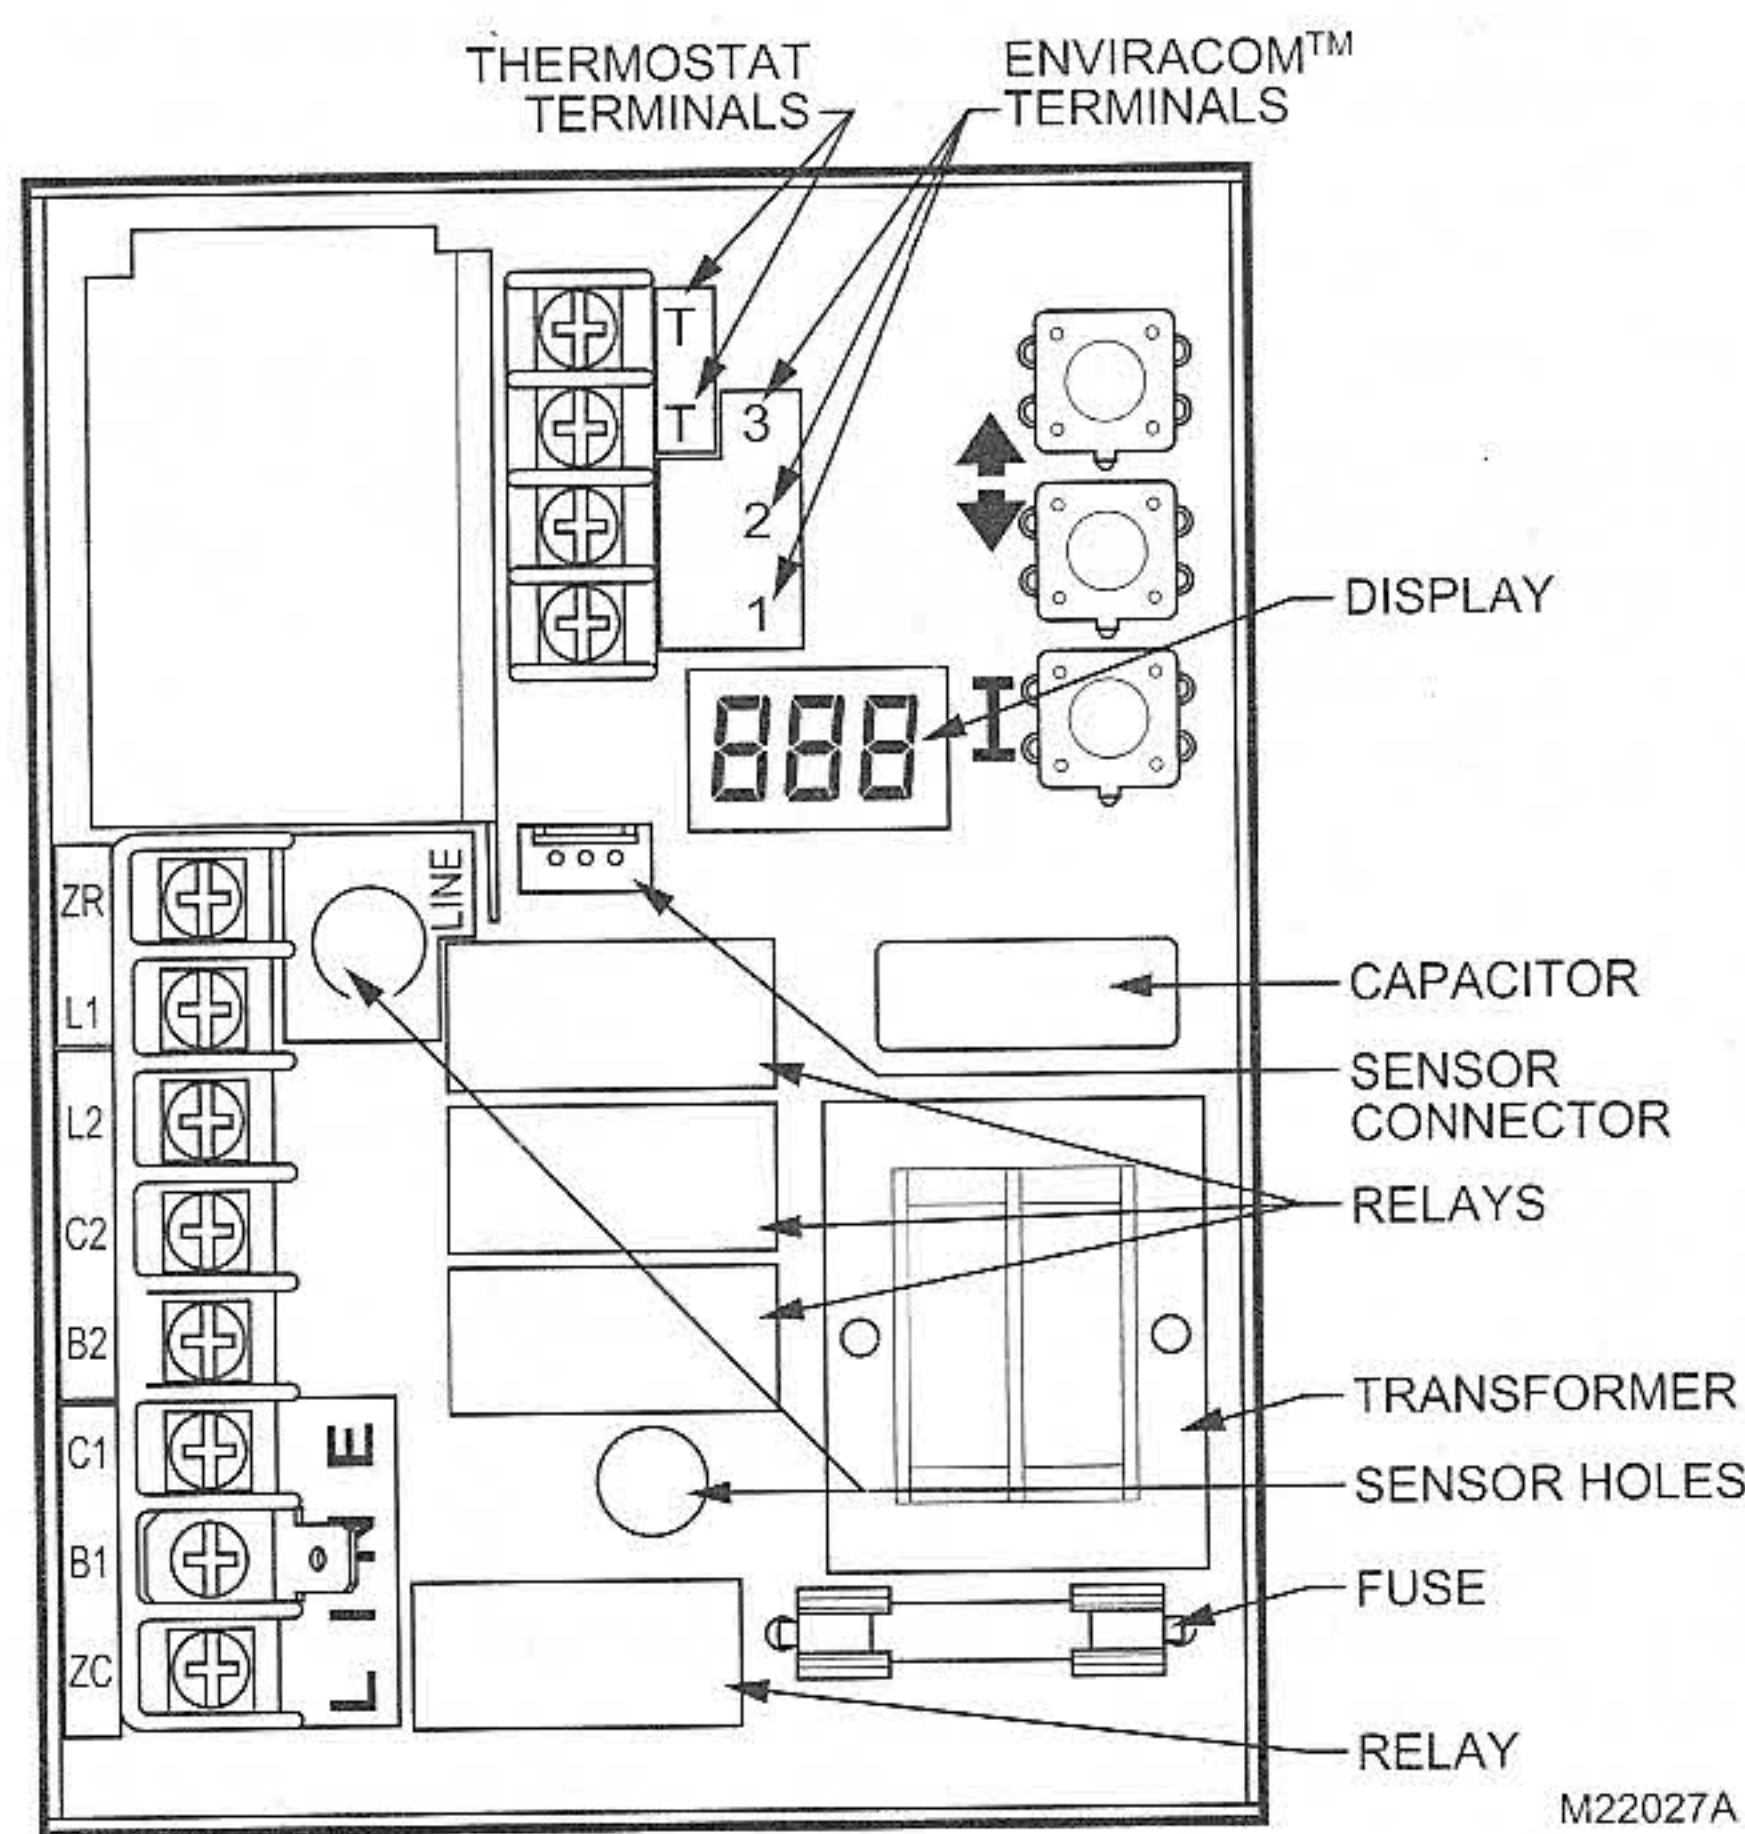

Fig. 5. Circuit board, showing sensor connection and well holes for vertical mount models.
3. Carefully align replacement sensor with hole in circuit board and guide through Aquastat case and into well. (See Fig. 5).
5. Connect sensor to circuit board by pressing connector on sensor unit into mating connector on circuit board (See Fig. 5).
To discourage unauthorized changing of Aquastat settings, a procedure to enter the **ADJUSTMENT** mode is required. To enter the **ADJUSTMENT** mode, press the **UP**, **DOWN**, and **I** buttons (Refer to Fig. 5) simultaneously for three seconds. Press the **I** button until the feature requiring adjustment is displayed: